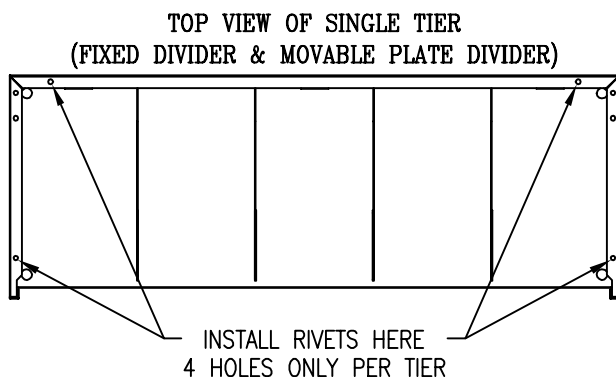

FIGURE 1
- 2.) Place the first tier on top of base. Slide the tabs on the tier under the flange on the base (Detail 5). Align the holes and install (4) drive rivets (Detail 1), 1 in each outside corner on back, and 1 in side hole closest to the front of the tier (Figure 1). Strike each rivet with hammer until the small steel center of the rivet is flush with the crown portion of the rivet.
- 3.) Place the second tier on top of the first, sliding the tabs of the top tier under the flange of the lower tier (Detail 5). Align the holes and install (4) drive rivets (Detail 2), 1 in each outside corner on back and 1 in side hole closest to the front of the tier (Figure 1). For Standard Fixed Divider Tiers, see View A. For Movable Plate Divider Tiers, see View B.
- 5.) Install top cover by hooking lip on rear of top (Detail 3) under the flange of the top tier. Align the holes on the sides and install (4) 1/4-20 nuts and 1/2" long pan head screws (Detail 4) to secure top cover in place.